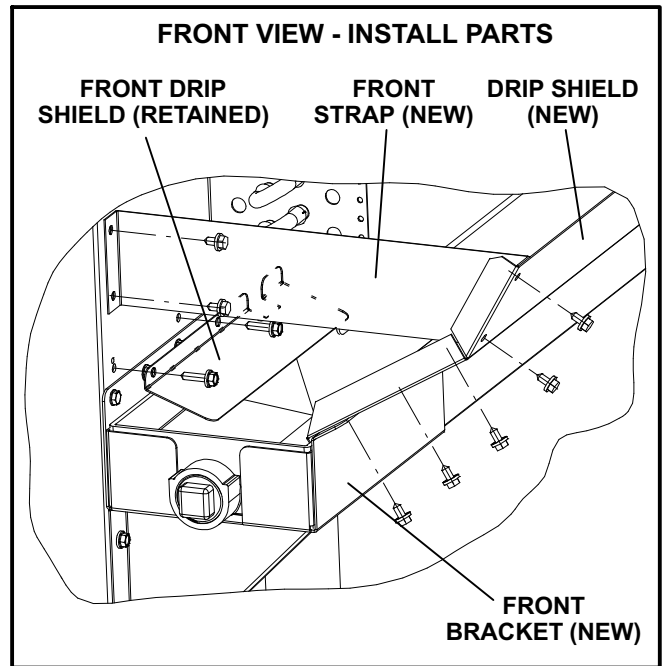

FIGURE 5
- 6- Install the front bracket provided in kit. See figure 5.